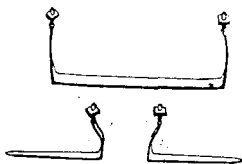

FIG. 16. Home-Made Attachments for Garden Cultivator.
*Scuffle Attachments for Hand Garden Cultivators*—Fig. 16 shows two sets of implements designed to be attached to the ordinary wheel cultivators, which will work close up to young plants so as to cut off the weeds just under the surface of the soil. They were de-